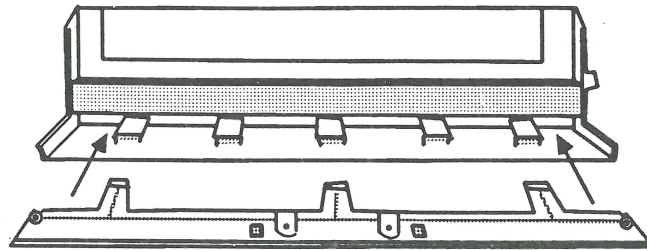

FIGURE 2
1. Place the hinge plate in the slot on the short side of the front cover (Figure 2).